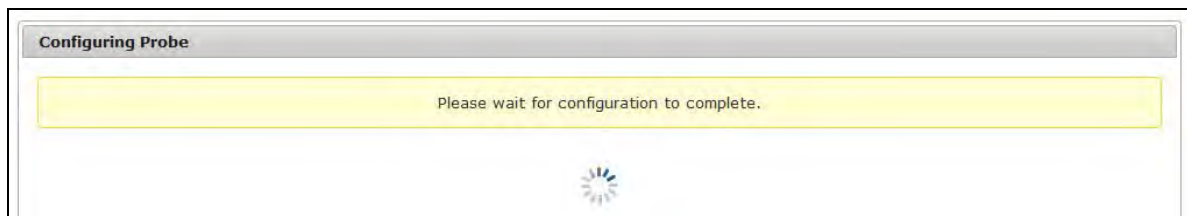

Figure 4.15 - Probe Installation GUI - Configuring Probe
9. When you apply the configuration, the following Web page appears (Figure 4.15). It will take approximately 10 minutes for the G10 to complete setup.